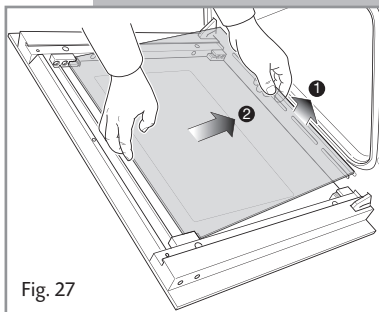

Fig. 27
- Gently lift the bottom edge of the pane (arrow 1 in fig. 27) and remove it by pulling it out from the top clamps (arrow 2 in fig. 27).